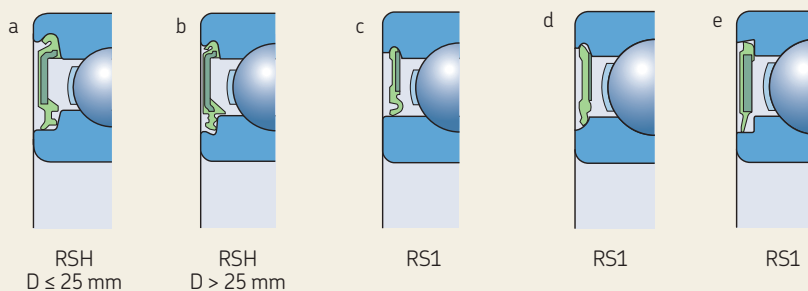

Fig. 11
- consist of a 62 series deep groove ball bearing and an SKF WAVE seal (fig. 11):